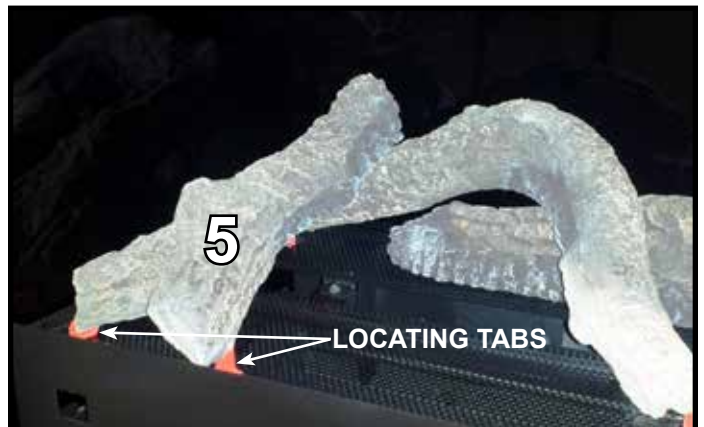

Figure 10. Log #5 (330-704)
13. Install front log #5. Position log between two locating tabs and rest log on log #4. See Figure 10.